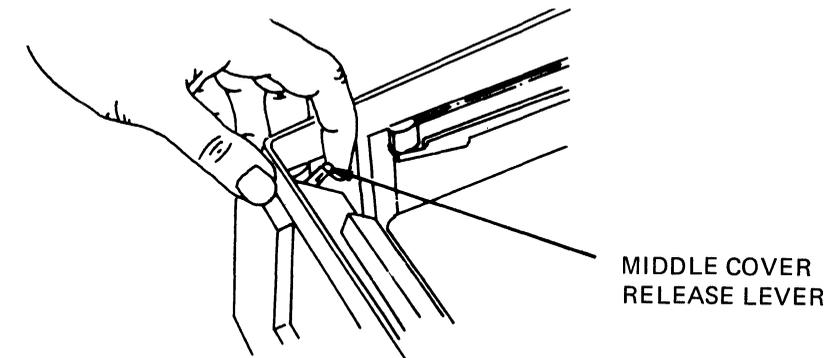

Figure 4-1 Middle Cover Lever (Left Side)
- Pull both the left and right levers inside the middle cover forward (see Figure 4-1).